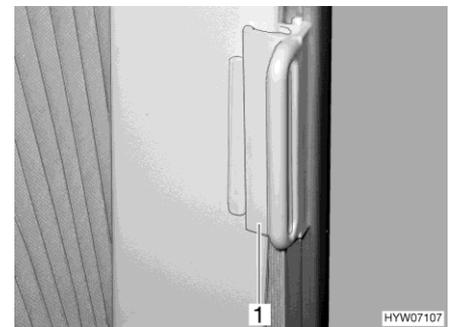

Fig. 31 Lock for Roman shade
- Securing: ■ Push the handle (Fig. 31,1) onto the cap. The Roman shade is secured.